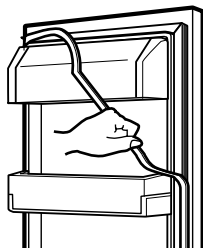

Figure 3
2. Open door. Loosen top hinge cover screw (1).
- Use flat tip screwdriver to pry back hooks on front underside of cover (3). Lift up cover.
3. Disconnect door switch wire harness (2).
5. Disconnect the three wire harnesses (5). Remove the grounding screw (6).
6. Rotate hinge lever (7) counterclockwise. Lift top hinge (8) free of hinge lever latch (9).
▶ Right Door -FIG. 3
1. Open door. Loosen top hinge cover screw (1). Lift up cover (2).
3. Disconnect wire harness (3).
4. Remove the grounding screw (4).
5. Rotate hinge lever (5) clockwise. Lift top hinge (6) free of hinge lever latch (7).